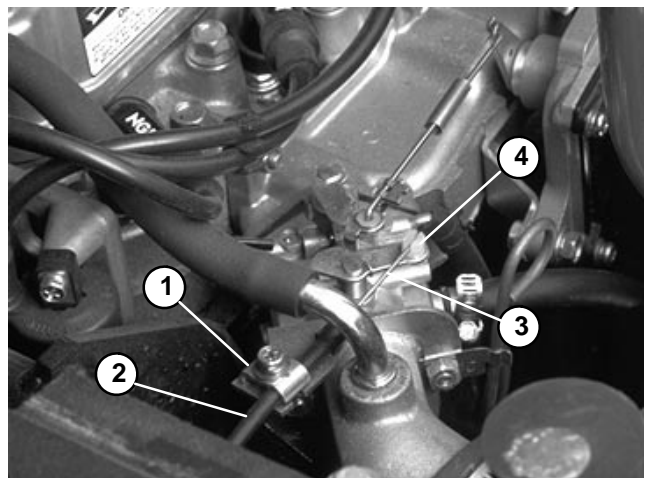

Figure 28
15. Loosen cable clamp and remove choke cable from the clamp. Disconnect choke link from the choke lever (Fig. 28)
9. Connect choke link to the choke lever. Secure choke cable to the cable clamp (Fig. 28).